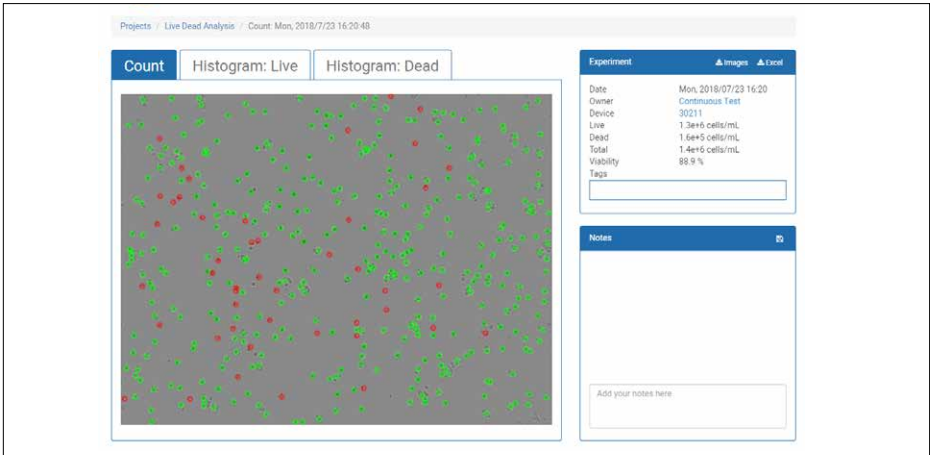

Figure 9. Previous Experiment page on the CytoSMART Connect Cloud had two “Histogram” tabs.
1. Two “Histogram” tabs have changed to one “Histogram” tab (Figures 9 and 10).